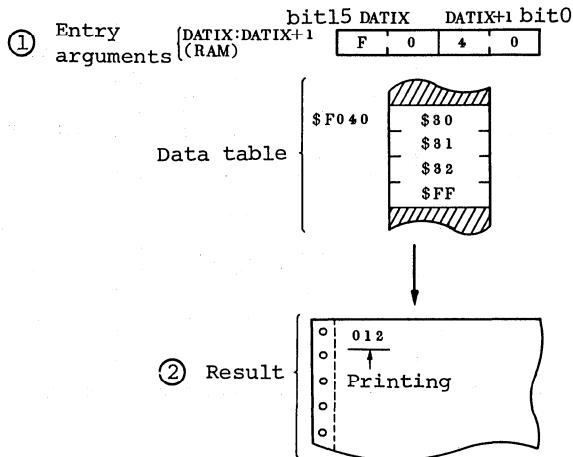

Figure 9-6. Example of SEOUT Execution
b. Example of SEOUT execution is shown in figure 9-6. If entry arguments are as shown in part ① of figure 9-6, data is printed as shown in part ② of figure 9-6.